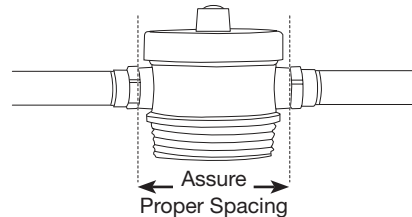

Figure 2
4. Calculate proper spacing of components (approximately 3/4" of existing pipe inserts into each fitting) (see Figure 2).